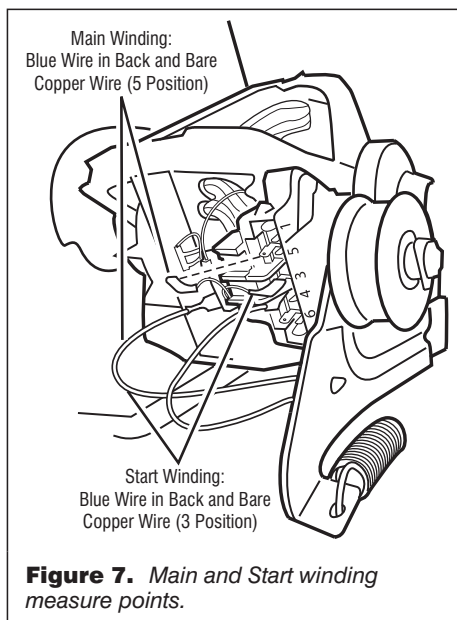

Figure 7. Main and Start winding measure points.
7. Remove the bare copper wire terminal from pin 5 of black drive motor switch. See figure 7.
8. Using figure 7, check for the resistance values of the motor's Main and Start winding coils as shown in the following table.